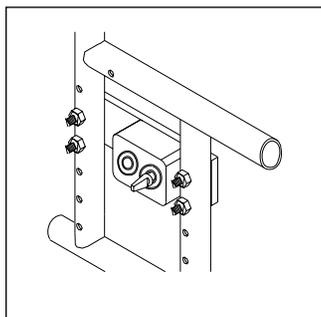

Fig. 11 Quickie & Zippie 2
**3. Forward or Rearward Axle Adjustment (Figs. 11, 11a & 11b)**